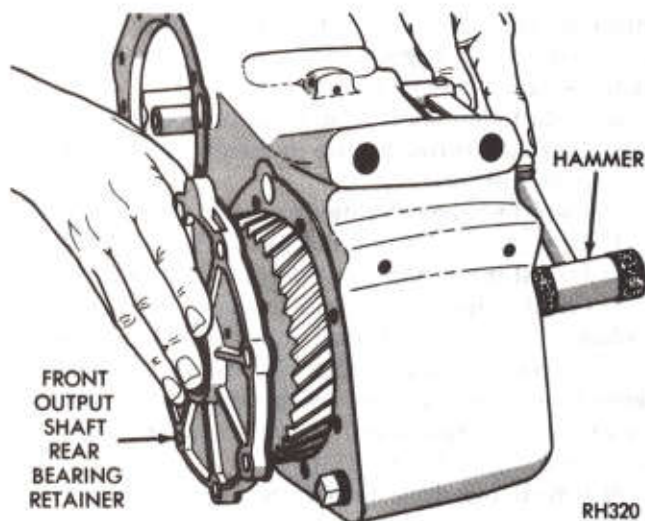

Fig. 4—Remove Front Output Shaft Assembly
- (5) Remove the two poppet nuts.
- (6) Remove the two poppet springs and using a magnet, remove the two poppet balls.
- (7) Remove front output shaft, gear assembly and bearing (Fig. 4).